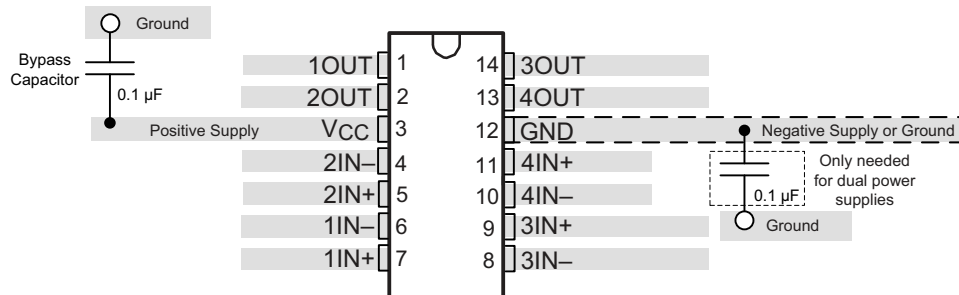

Figure 7-3. Comparator Board Layout
- To minimize supply noise, place a decoupling capacitor (0.1 μF ceramic, surface-mount capacitor) as close as possible to V_S as shown in Figure 7-3.